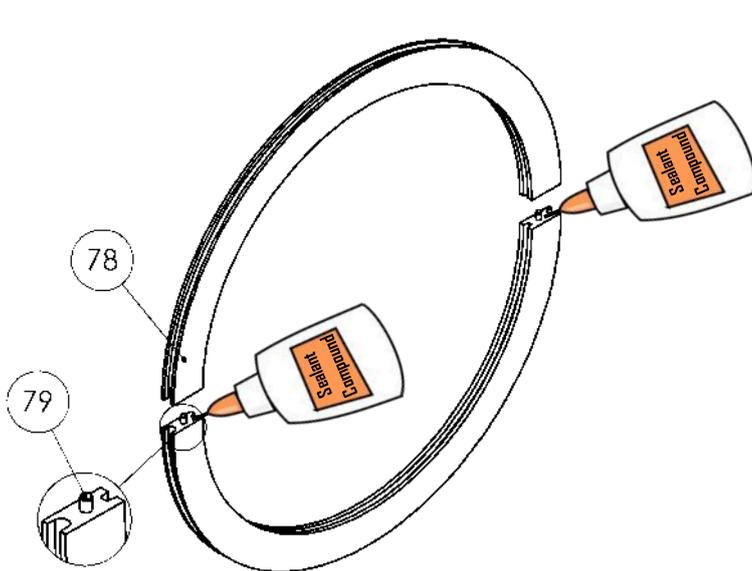
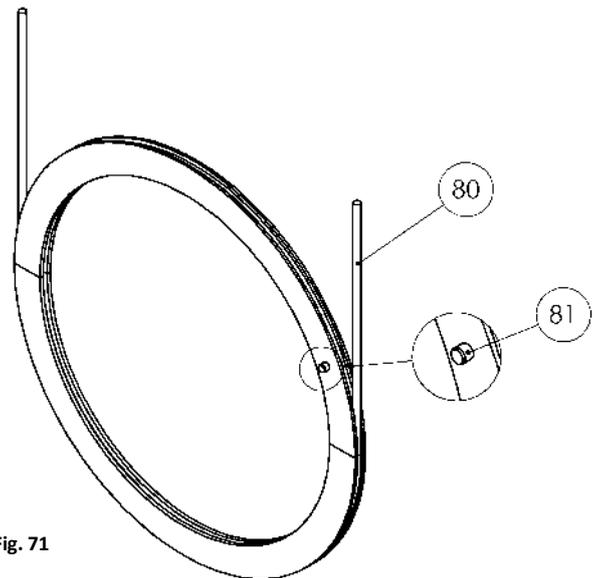

Fig. 70
Fig. 71
- Prepare the seal to installation by coating the surface of the split line with a thin film of non-hardening sealant compound (Fig.70).
- Joint the halves of the labyrinth seal (78) by the positioning pin (79), present in some seal bore diameters, placed at the split line.
- Insert the wire spring (80) in the sealing groove and lock the spring key (Fig.71).